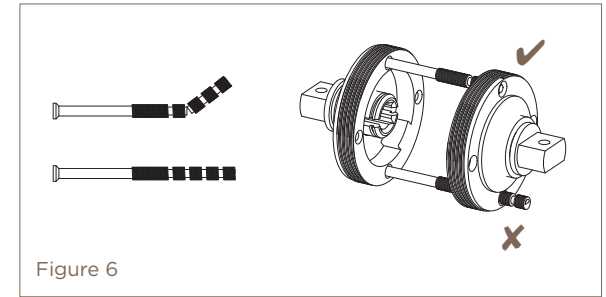

Figure 6
- 4.3 If using connector bolts (G), shorten to suit the door thickness ensuring they will not protrude from the opposite side of the inner rose (C) once installed. Figure 6.